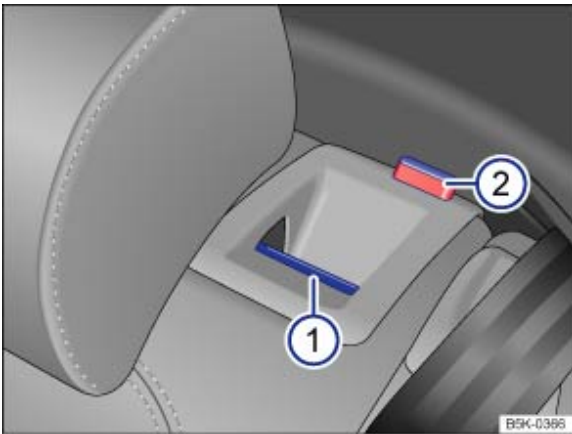

Fig. 102 Rear bench seat: release button ①; red marking ②
- Pull the release button forwards → Fig. 102 Ⓞ and fold the backrest forwards at the same time.
- The rear seat backrest is unlocked when you can see a red marking → Fig. 102 Ⓞ in the button.
The rear seat backrest is unlocked when you can see the red marking on button → Fig. 102 Ⓞ .
- The red marking on release button → Fig. 102 Ⓞ should no longer be visible.
- The backrest has not been secured properly if you can see a red mark on the button → Fig. 102 Ⓞ . Please always ensure that the red marking is never visible when the rear seat backrest is in the upright position.